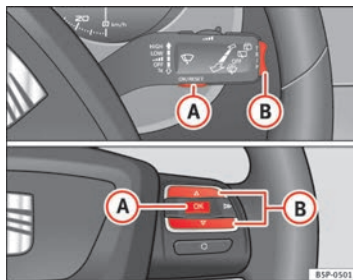

Fig. 41 Rocker buttons A and B. Steering wheel controls.
- When the ignition is on, briefly press button **A** on the windscreen wiper lever to change from one memory to another or press button **A** on the steering wheel controls \Rightarrow page 63, fig. 41.